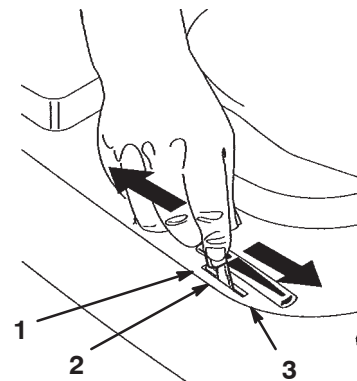

Figure 7
4. Shift the throttle lever to Choke (Fig. 7).
6. After the engine starts, slowly shift the throttle lever to Fast (Fig. 7). If the engine stalls or hesitates, shift the throttle lever back to Choke for a few seconds and then shift the throttle lever to Fast. Repeat this step as required.
1. Shift the throttle lever to Slow (Fig. 7).